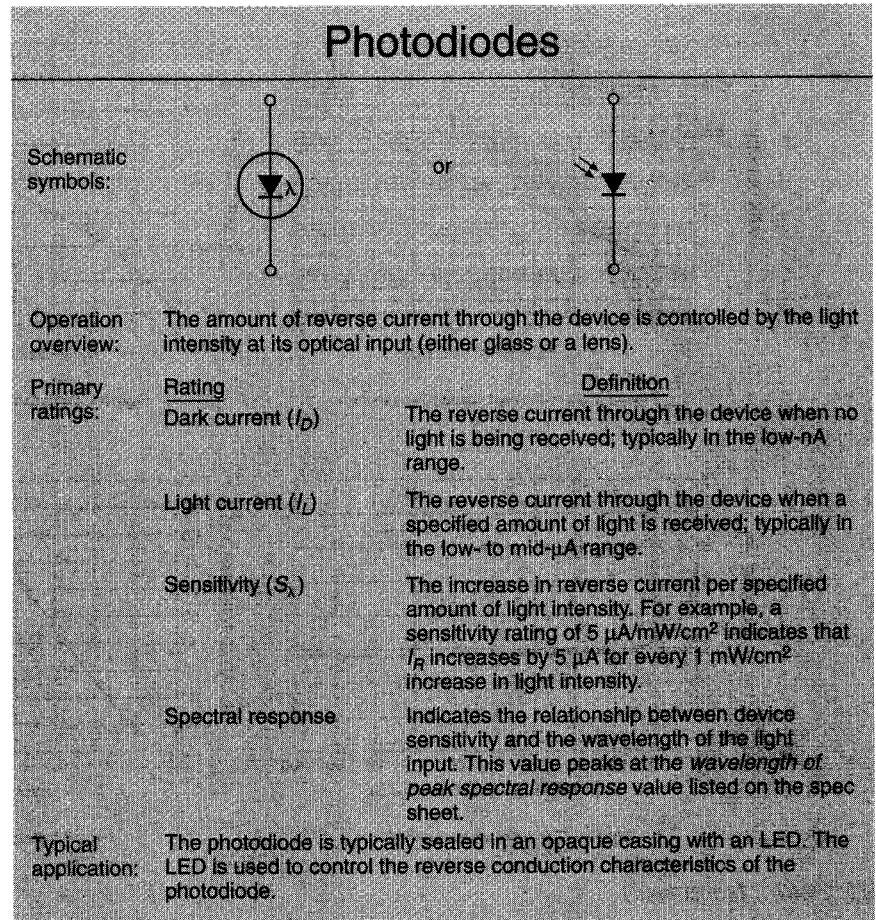

FIGURE 20.43
1. The schematic symbol used in Figure 20.41 is only one of two commonly used symbols. The other is shown in Figure 20.43. Note that the light arrows in the symbol point *toward* the diode rather than away from it.